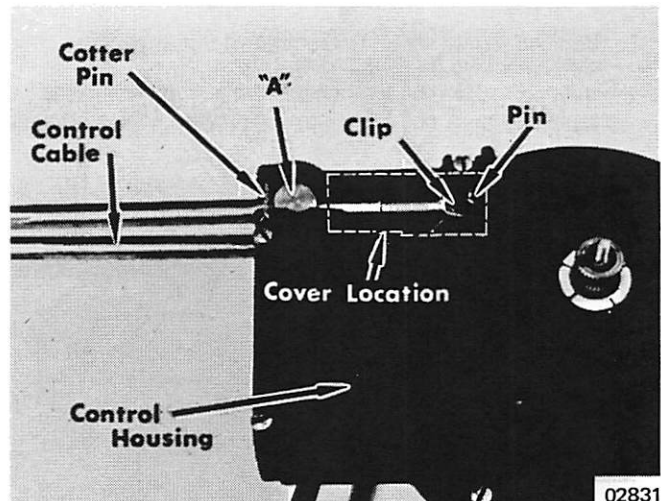

Figure 4. Control Cables Installed in Control Housing
3. Control cables are held in position with pins and hair pin clips. (Figure 4)